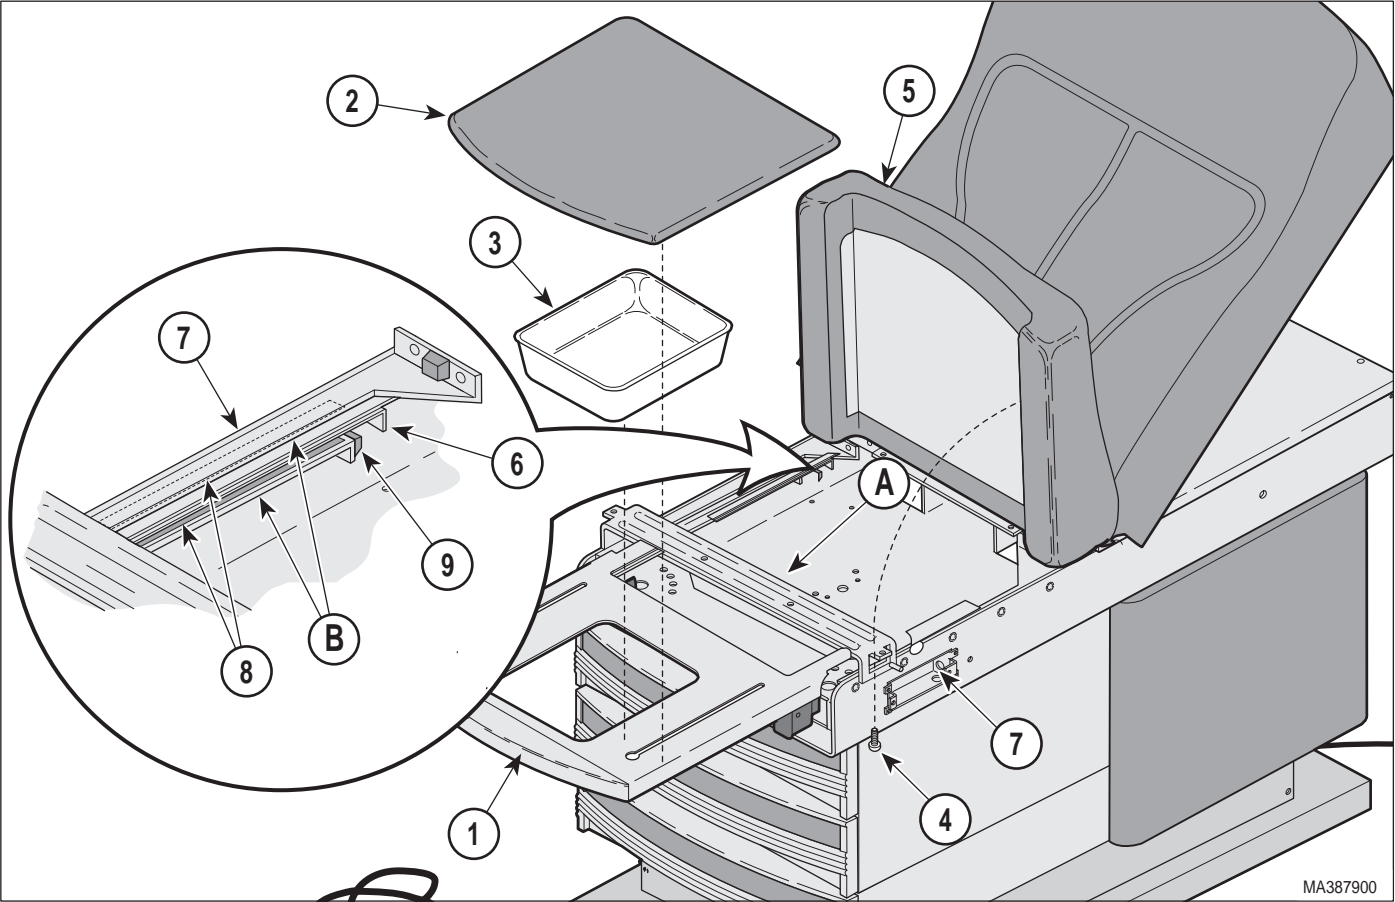

Figure 4-4. Footrest Extension Removal / Installation
- (1) Unplug the table power cord from the wall outlet.
- (2) Pull out on the footrest assembly (1, Figure 4-4) until it is fully extended.
- (3) Remove the upholstered footrest pad (2) and treatment pan (3).
Before installing the footrest weldment inspect the footrest runners (B, Figure 4-4) to insure the nylo tape glides (8) are in place at the side and top of each runner. Also, inspect the rubber bumpers (9), located at the back of the footrest runners to insure they are intact.
- (1) Inspect the nylo tape glides (8, Figure 4-4) and rubber bumpers (9) and replace if worn. Place a light coating of petroleum jelly on the glide.
- (2) Insert the footrest weldment (1) into the runners (B) of the upper wrap weldment (7) and bend the two tabs (6) downward until vertical.
- (3) Install the treatment pan (3) and upholstered footrest pad (2).
- (4) Plug the table power cord into wall outlet.